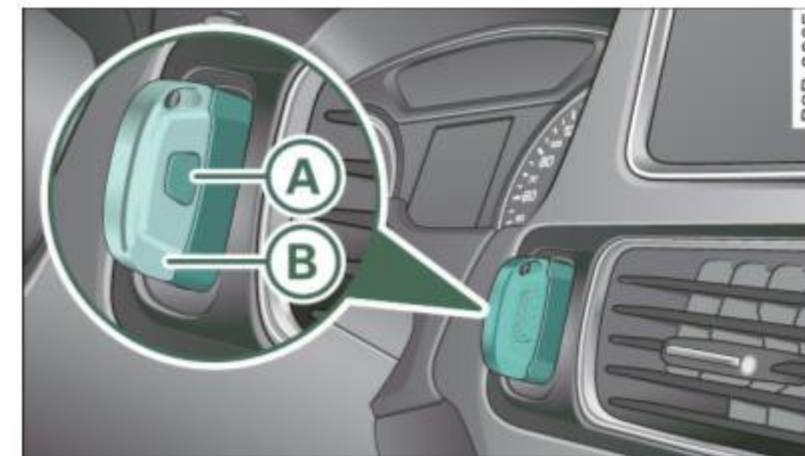

Fig. 31 Ignition switch with ignition key
- Press the release button **(A)** ⇒ fig. 31 and pull the mechanical key **(B)** out of the master key.